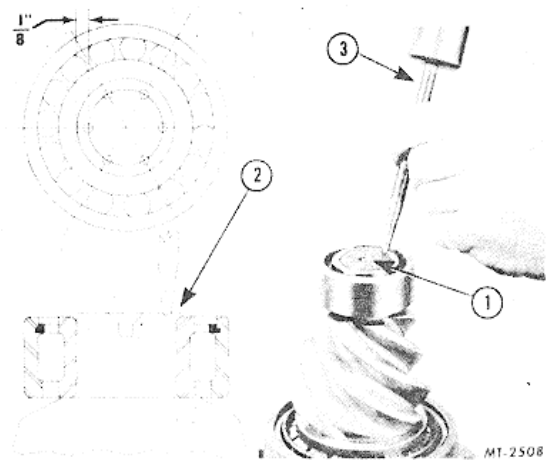

Fig. 25. Staking Pinion Pilot Bearing
pinion. Stake face of pinion shaft in six (6) evenly spaced places to secure pilot bearing in place (Fig. 25)